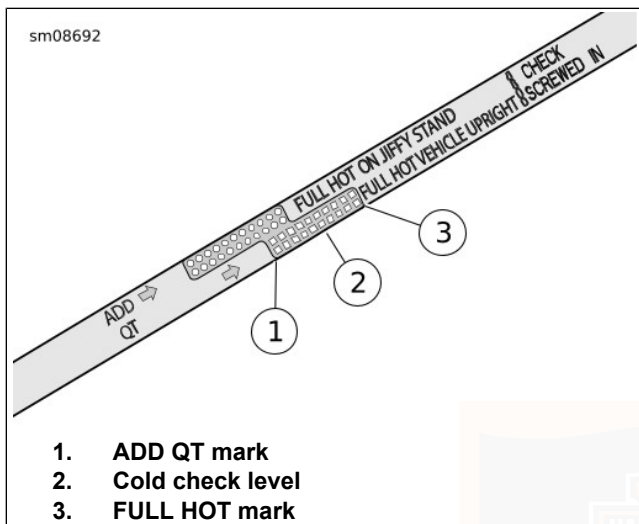

Figure 65. Engine Oil Dipstick (VEHICLE UPRIGHT Gauge)
- e. See Figure 65. Check oil level. The correct cold oil level is midway (2) between the ADD QT (1) and FULL HOT (3) marks on the dipstick.
5. Check oil level. Add only enough to bring level midway between the ADD QT (1) and FULL HOT (3).
- e. See Figure 65. Check oil level. Oil level must register between the ADD QT and FULL HOT marks on the dipstick.